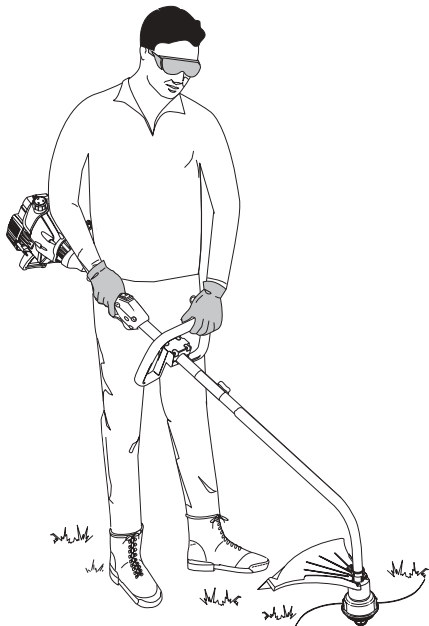

Fig. 2
5. While holding the unit in the operating position (Fig. 2), position the D-handle to the location that provides you the best grip.